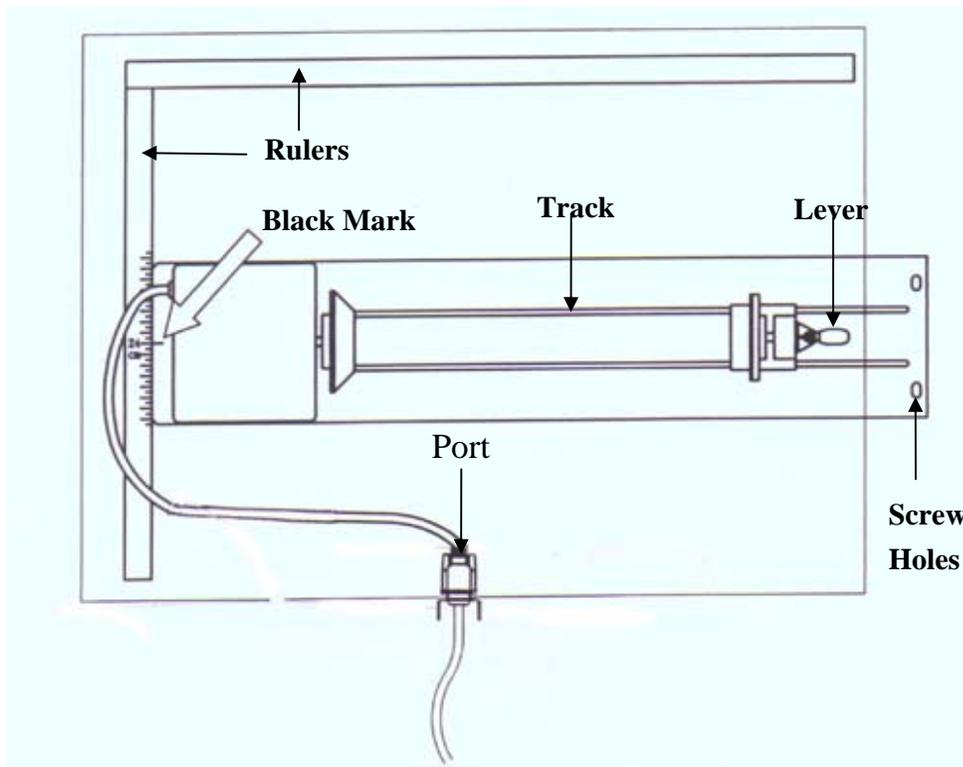

Fig. 5
- 3) Plug the cable of the rotary attachment into the port in the middle front of the engraver (refer to Fig.5)